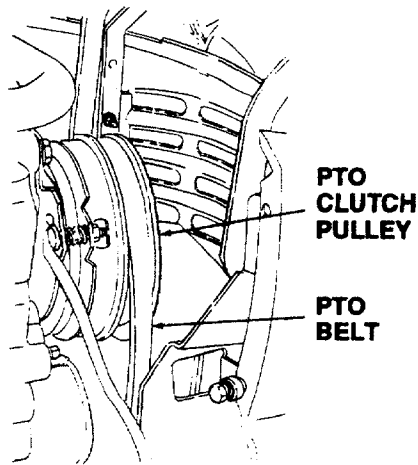

Figure 54
- Install the forward end of the PTO belt on the engine PTO clutch pulley by passing the belt upward inside the tractor frame. Ensure that the narrow side of the PTO belt engages the groove of the pulley. (Refer to Figure 54.)